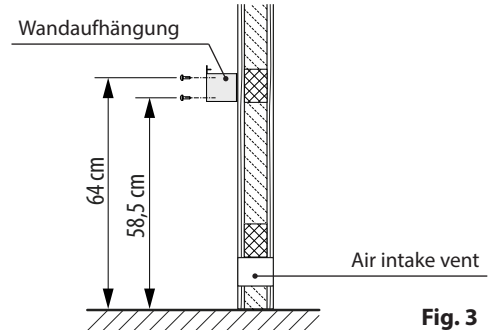

Fig. 3
- Center wall mounting over the air intake vent as in Fig. 3+4 and bolt onto cabin wall with the particle board screws provided.